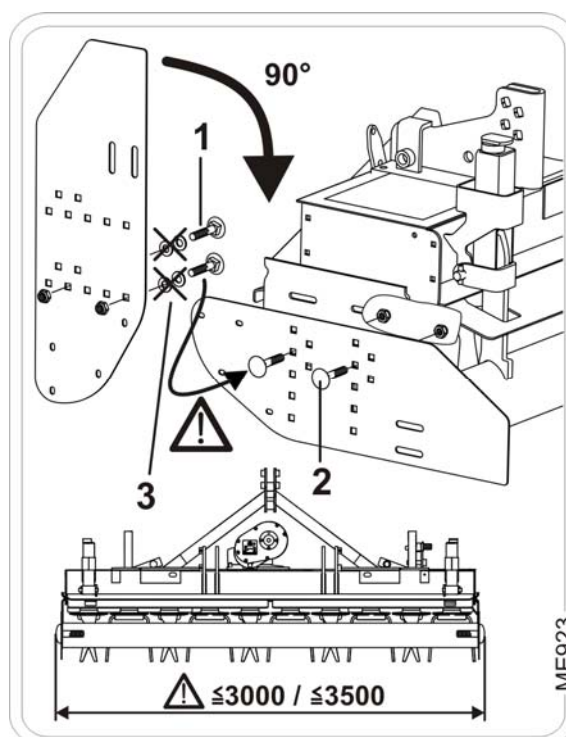

Fig. 78
1. Undo the flat head screws (Fig. 78/1).
3. Insert the flat head screws (Fig. 78/2) into the side panel from the outside and screw on the side panel.
Do not use the (Fig. 78/3) washers.